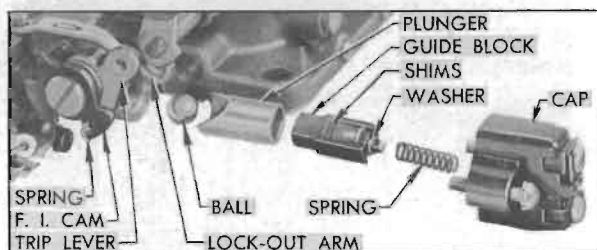

Figure 3-53—Fast Idle Cam and Vacuum Switch Parts
18. Remove accelerator vacuum switch terminal cap and switch return spring, then lift out switch guide block with contact spring and shims. Do not lose timing shims and the spring washer on contact spring. Turn body flange over to allow plunger and ball to drop into hand. See figure 3-53.
10. Place fast idle cam and cam trip lever over fast idle screw so that tongue on trip lever is held in the notch in cam by the hooked end of cam spring, then install parts on body flange with arm of trip lever placed under the auxiliary throttle lock-out arm. See figure 3-53.
Place switch ball in body flange. Place guide block in switch plunger and install in body flange with *grooved side of plunger upward* toward main body flange. Install switch return spring and terminal cap, holding cap down while installing screws with lockwashers. See figure 3-53.